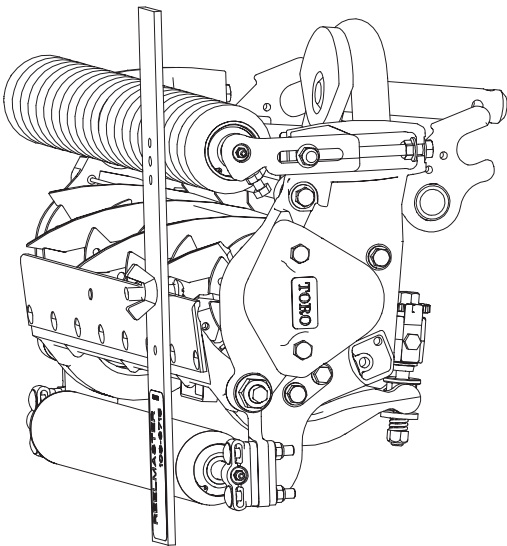

Figure 15
- 3. Hook the screw head on cutting edge of bedknife and rest rear end of bar on rear roller (Fig. 15).